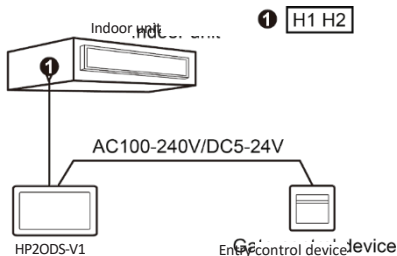

Fig. 5.12 Connection method 1 for wired control and input control
- ① The HP20DS-V1 shown in Figure 5.12 must be configured as the HBS master device.